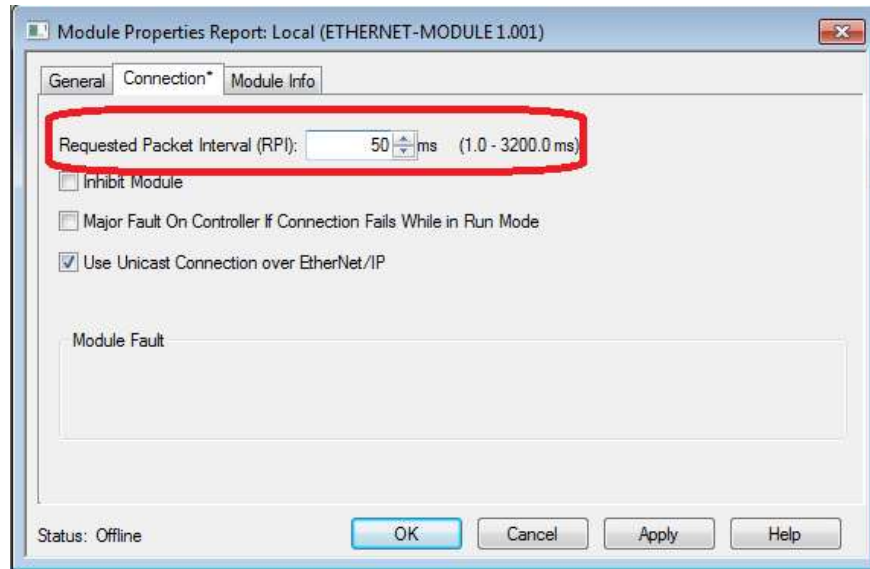

Figure 8 Enter Requested Packet Interval
- j. In the **Module Properties** window, click on **Connection** tab, Enter the **Requested Packet Interval(RPI)**, as shown in Figure 8. For this example, **50** (ms) is entered. Click on **OK** to confirm.